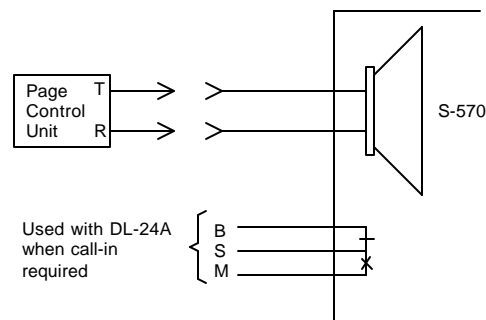

FIGURE 2
- Connect push-button switch to customer provided signaling equipment (See Figure 2).